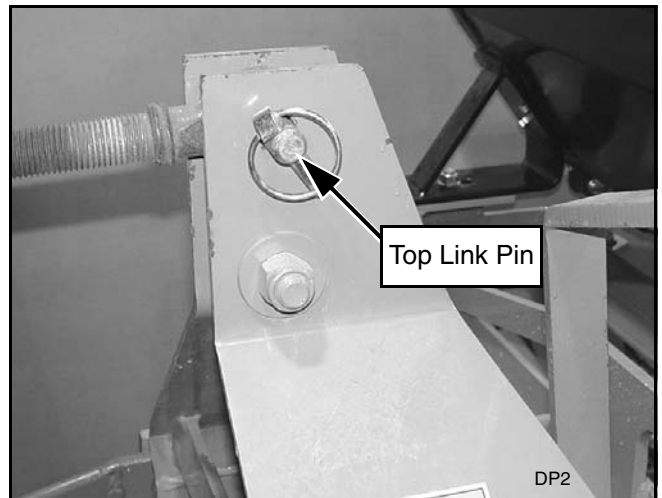

Figure 3. Top Link Attached to Aerator (Typical)
2. Attach the tractor's top link to the upper mast of the aerator. Secure with high-strength top link pin and retaining pin provided with the tractor. See Figure 3.